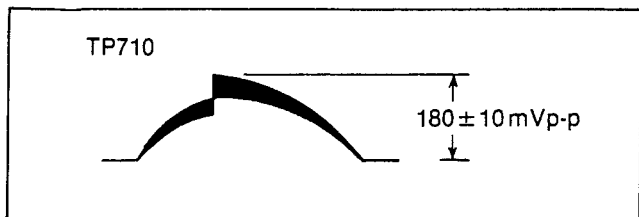

Fig. C37
- (1) Set the Focus selector to "AUTO".
- (2) Connect the jumper wire between TP516 and TP520 to iris open.
- (3) Aim the camera at White/Gray Chart.
- (4) Adjust the lighting condition so that level at TP710 becomes $180\text{mV} \pm 10\text{mVp-p}$ as shown in Fig. C37.